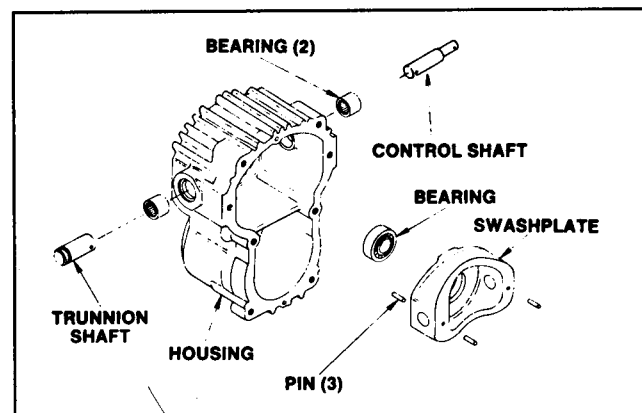

Figure 46
3. Reinstall the pump shaft bearing by pressing it into the main transmission housing, from the inside to the front of the housing, until it seats fully into the housing (Fig. 46).